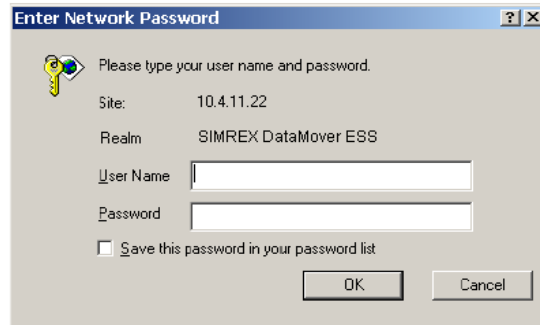

Figure 3-6. Log-in Screen when using a Web Browser
4. A log-in screen is displayed (**Figure 3-6**) where you enter a user name and password to access the unit's menu system. Note that the default entries are made in *lower case*. (Default User Name: **DataMover**; Default Password: **admin**)